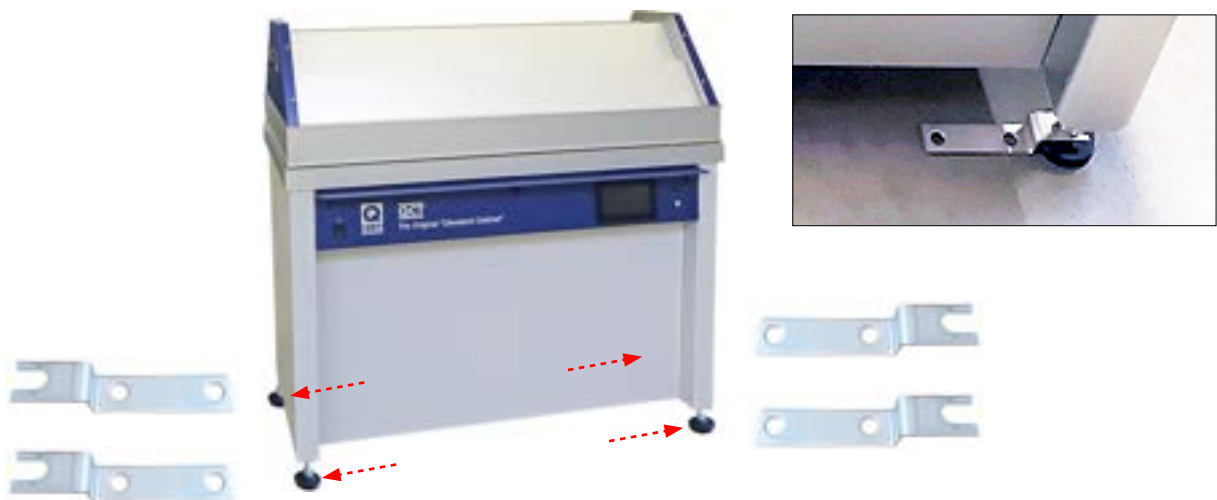

Figure 6.2d: Optional earthquake restraints.
- An optional earthquake restraint kit (CV-60450-K) is available to secure the QCT tester to the floor (Figure 6.2d).